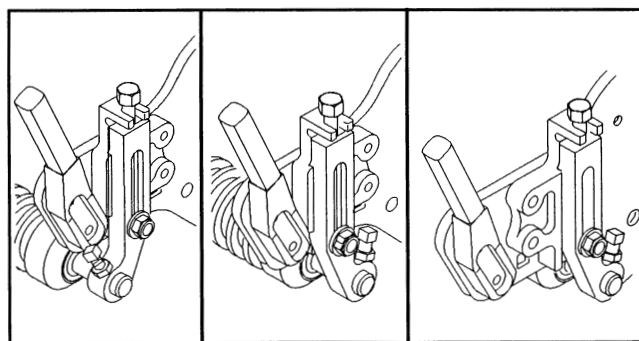

Figure 9
**Note:** The front roller can be put in three different positions (Fig. 9)) depending on the application and your needs.